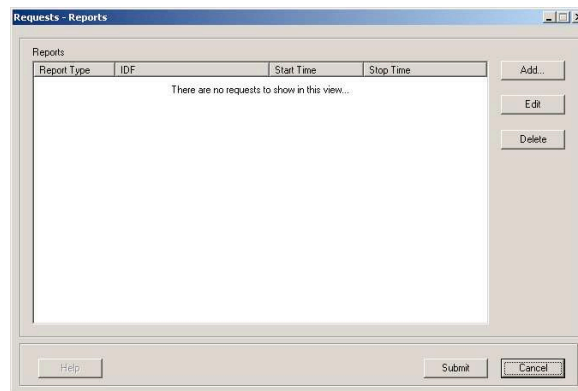

Figure 45: Report Request Screen
- Select “Request Reports” to activate the Requests screen (see Figure 45).
- Click the “Submit” button on the Report Request screen (see Figure 45) to begin running the reports in the report queue.
- Select Request Reports to bring up the Report Request screen (see *Figure 45*).
- Select “Request Reports” to activate the Requests screen (see *Figure 45*).